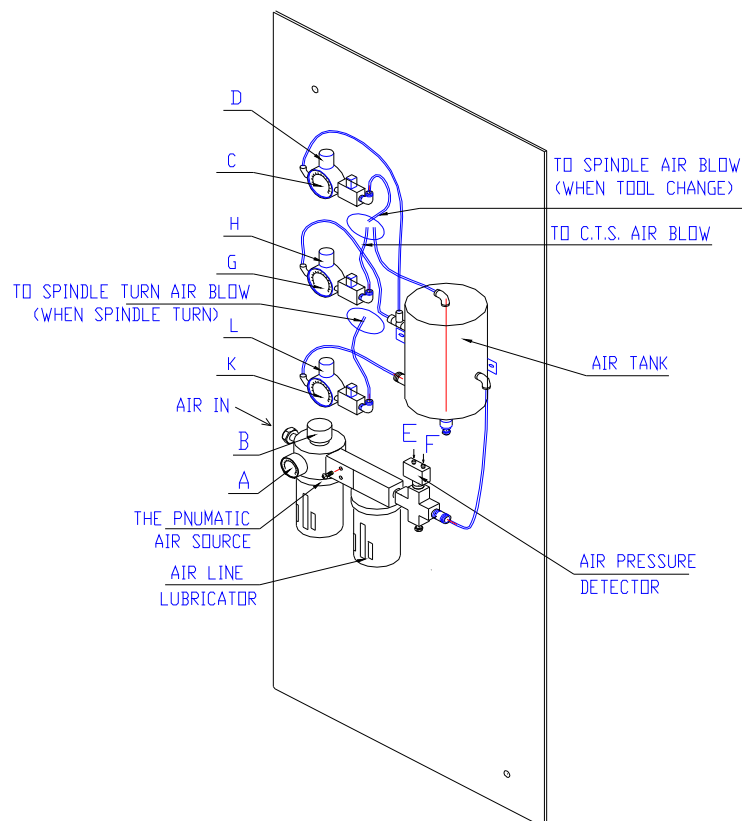

FIG. 6.6.1 AIR SOURCE ADJUSTMENT
- c. TO ADJUST THE AIR PRESSURE DETECTOR, (SEE FIG. 6.6.1)
- b. AS FIG 6.6.1 GAUGE (A) ADJUST THE AIR PRESSURE TO 6 bar ,
- b. AS FIG 6.6.1 GAUGE (C) ADJUST THE AIR PRESSURE TO 2 bar ,
- b. AS FIG 6.6.1 GAUGE (G) ADJUST THE AIR PRESSURE TO 2 bar ,
- b. AS FIG 6.6.1 GAUGE (K) ADJUST THE AIR PRESSURE TO 2 bar ,